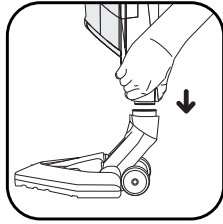

fig. 3
- Attach the Delta vacuum head (11) by clipping it on to the lower part of the main body (fig. 3).